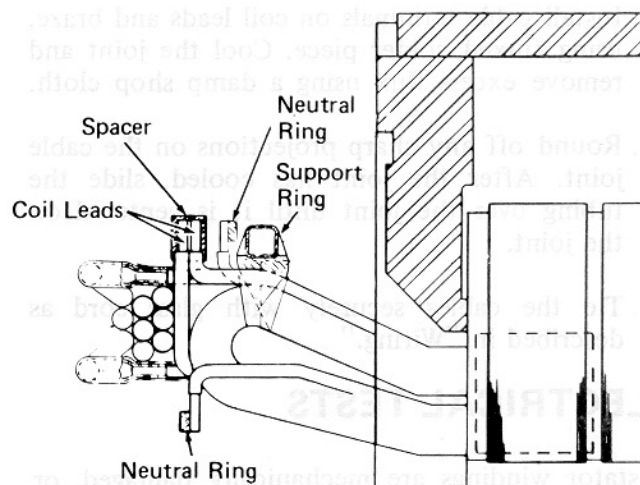

Fig. 4 - Wiring Application
15. Align series leads of coils previously opened and slide 51 mm (2") insulation over coil leads. Insert spacer, fluxed with "Handy Flux," or equivalent, between the leads, Fig. 4, and braze the two leads together. Protect the insulation on the leads with a suitable heat sink.